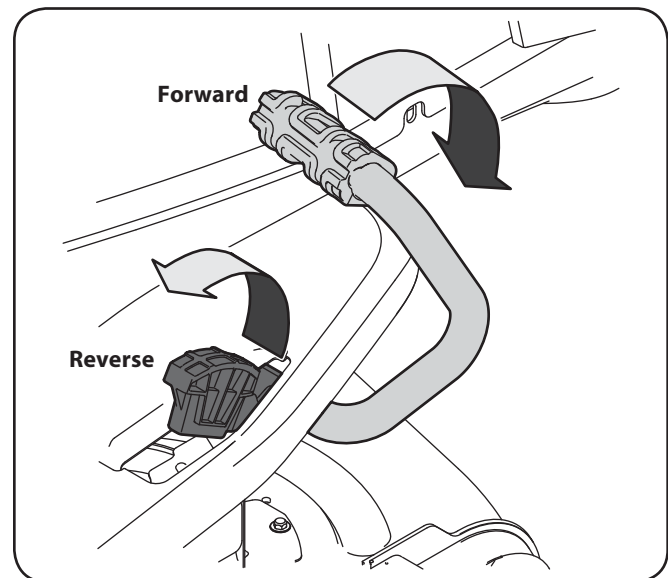

Figure 5-2
2. To travel FORWARD, slowly press the forward drive pedal forward until the desired speed is achieved. See Figure 5-2.
3. To travel in REVERSE, check that the area behind is clear then slowly depress the reverse drive pedal until the desired speed is achieved. See Figure 5-2.